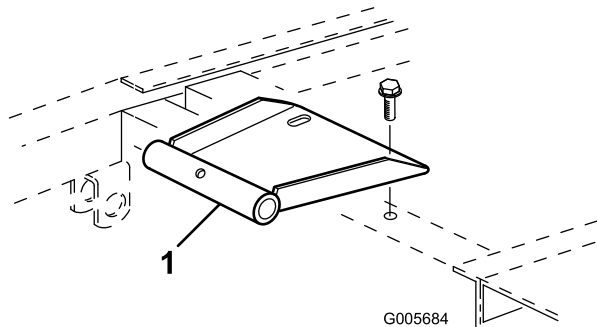

Figure 8
2. Mount seat pivot bracket to frame with 2 flange screws supplied in kit (Figure 8).
- 4. Mount seat pivot bracket to frame with (2) flange screws supplied in kit (Figure 8)